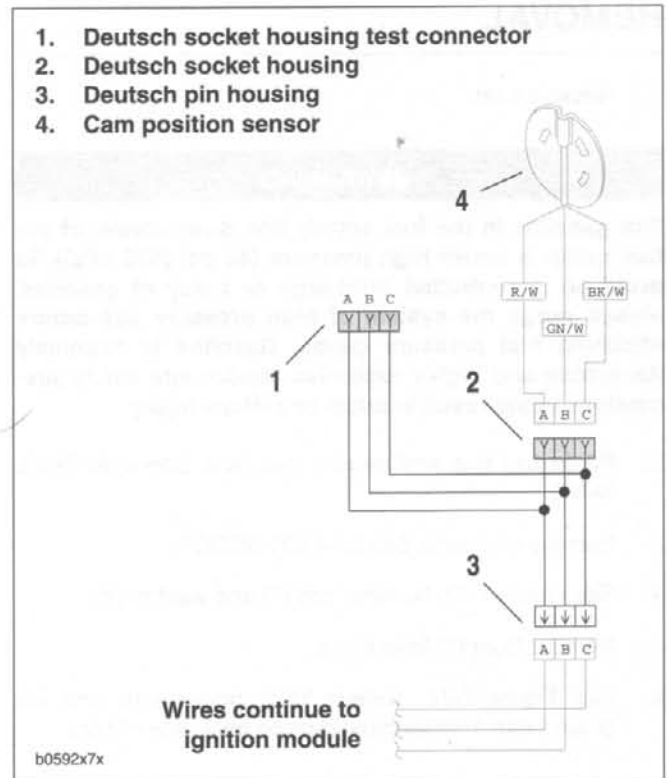

Figure 7-72. Testing Tachometer
1. See Figure 7-72. Connect the speedometer tester to the cam position sensor Deutsch socket housing.